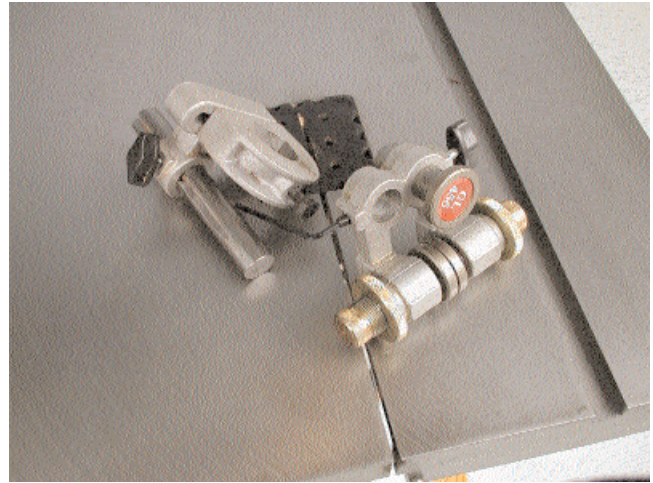

Fig. 4
4. Remove the lower GL456 bearing holder as shown in Fig. 4. This will leave only the shaft attached to the adjustment bracket. See Fig. 4.